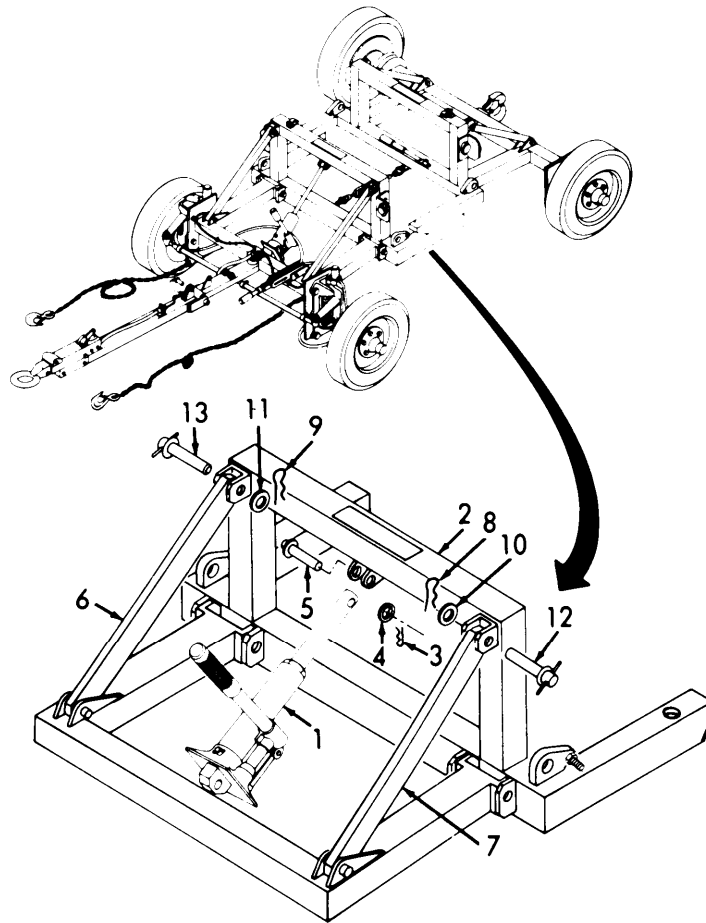

Figure 3-7. Suspension Frame, Installation.
- (4) Attach lockout struts (6, Figure 3-7) to suspension frame (2).
- (a) Aline holes in lockout strut with holes in suspension frame (2).
- (b) Install T-pins (13) and (12).
- (c) Install washers (11) and (10), and locking clips (9) and (8).
- (5) Attach hydraulic jack (1) to suspension frame (2).
- (a) Aline hole in hydraulic jack (1) with hole in suspension frame (2).
- (b) Install pin (5), washer (4), and cotter pin (3).